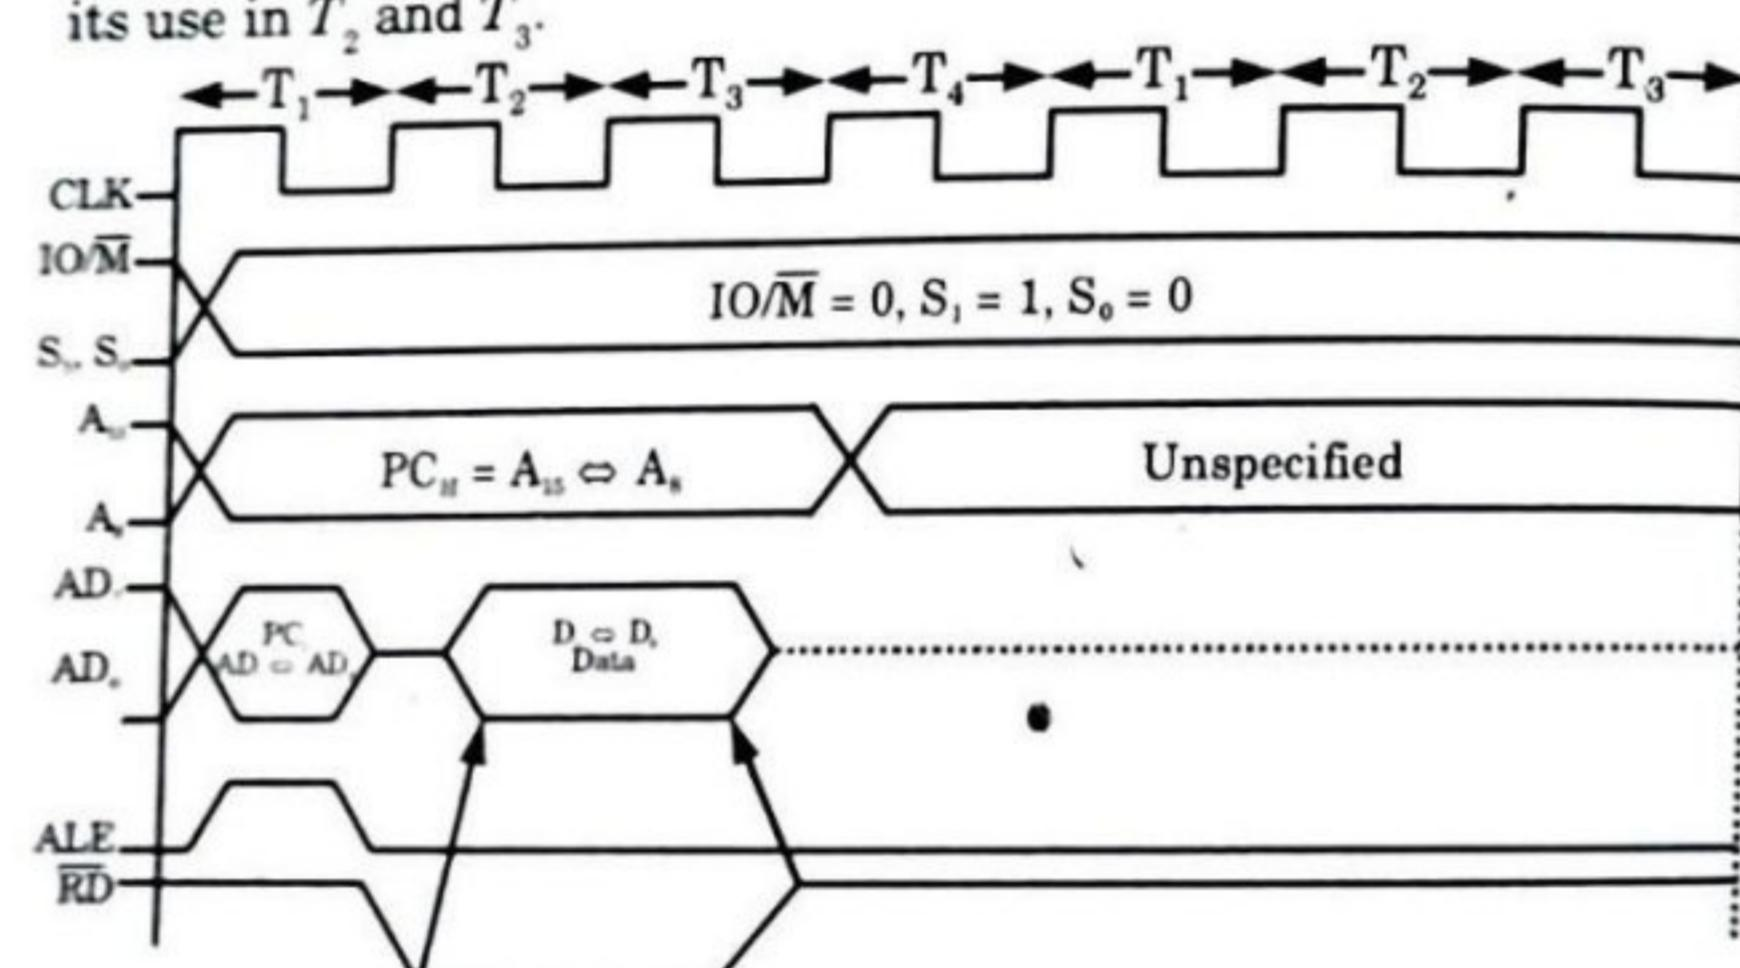
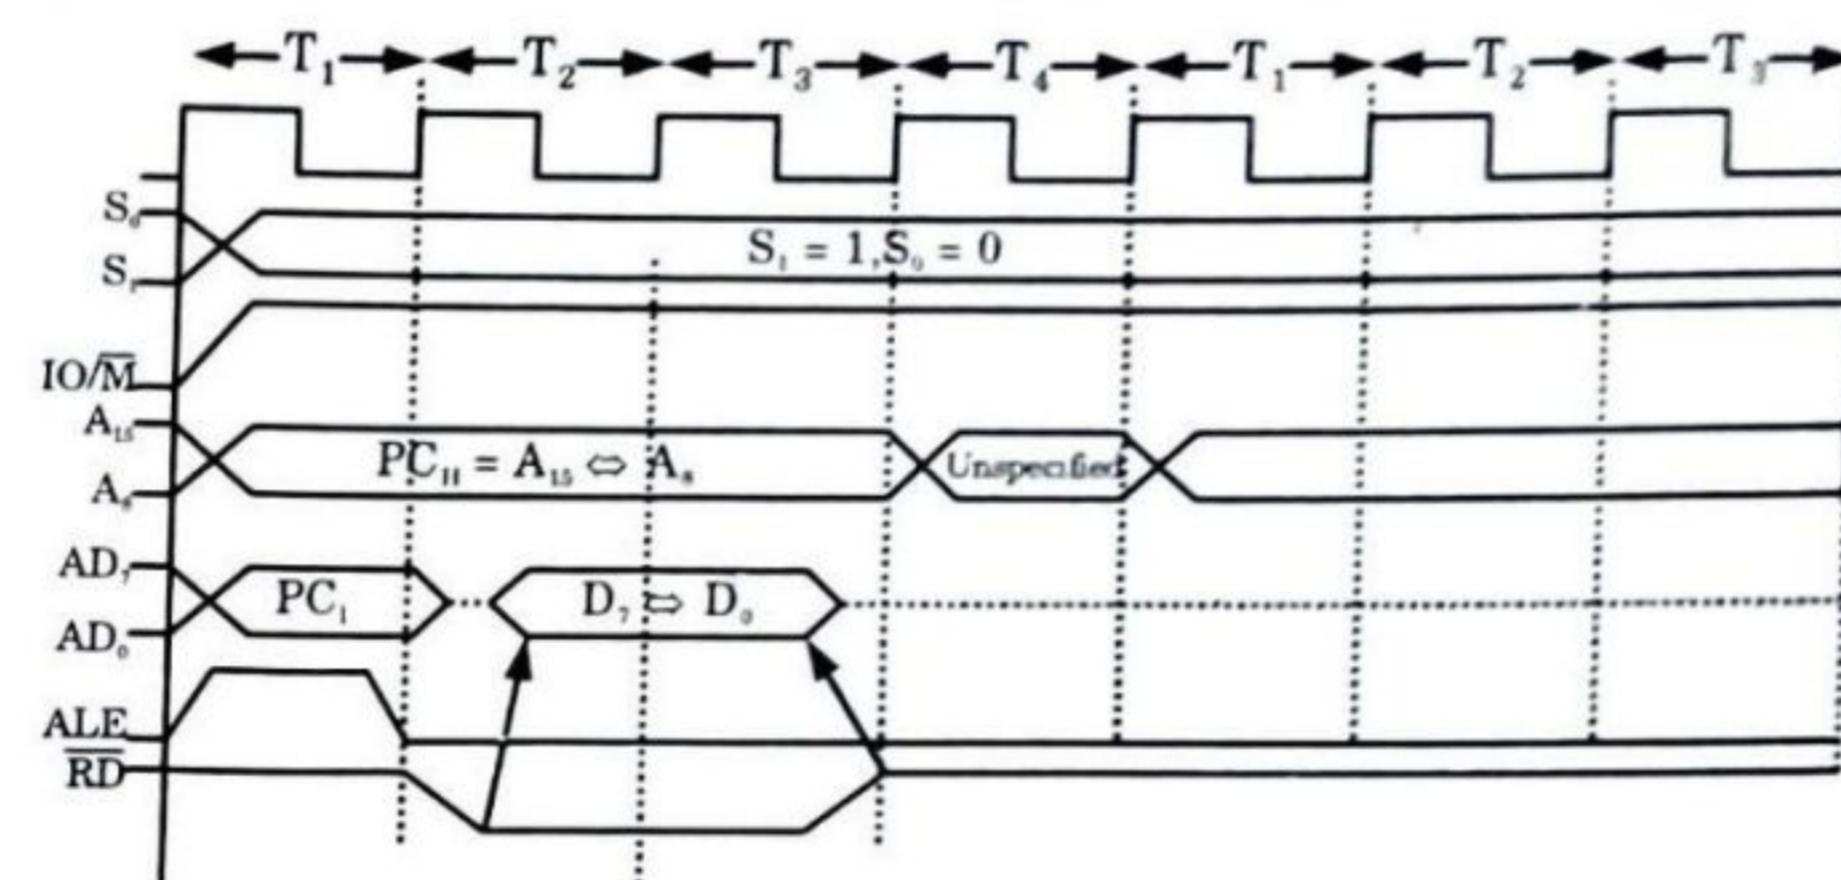

Fig. 2.8.1. Memory read timing diagram.
Fig. 2.8.2. I/O read timing diagram.
2. The timing diagram for IO/\bar{M} read are shown in Fig. 2.8.1 and Fig. 2.8.2. $A_{15} \leftrightarrow A_8$ remains valid in T_1, T_2 and T_3 i.e., duration of the bus cycle, but $AD_7 \leftrightarrow AD_0$ remains valid only in T_1 .